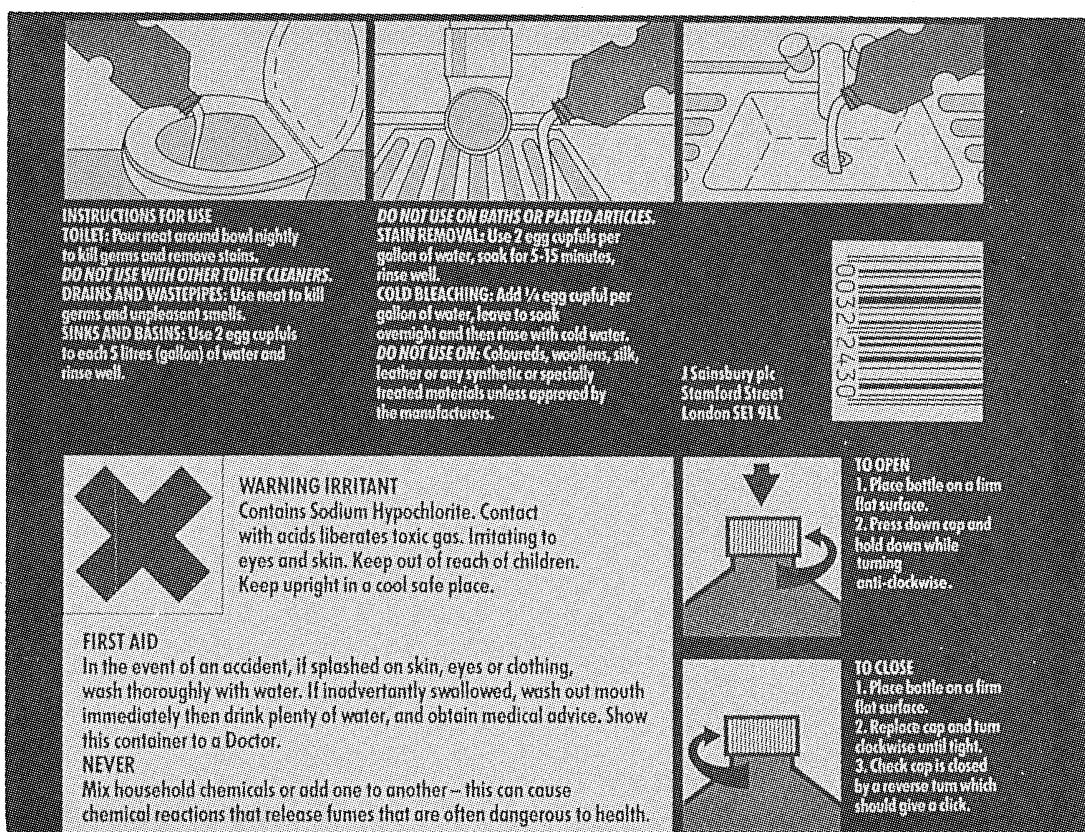

Figure 1
*Acknowledgements* This unit is adapted by permission from an experiment originally developed for the Salters Chemistry Course. Figure 1 supplied by J. Sainsbury.
Look carefully at the labels on several bleach containers. Figure 1 is an example of a label taken from a bleach bottle.